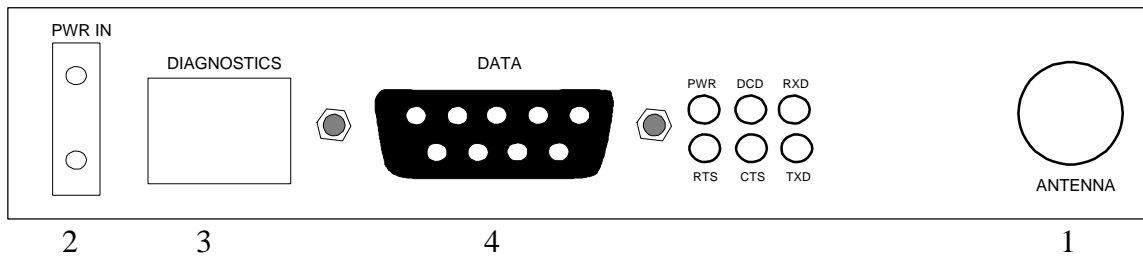

Figure 3.1 Model 2888 External Connectors
After determining the appropriate squelch level, set the RF signal generator to that level. Connect the output port of the service monitor to the antenna port of the 2888 Radio (Figure 3.1, ①, Page 3-2). Turn the Squelch Adjustment Potentiometer located at R57 (Figure 2.3, ④) counterclockwise to the turn limit. Then, rotate the potentiometer clockwise slowly until you see the Rx LED solidly on, then stop turning immediately. To verify proper adjustment, reduce the RF input to the 2888 Radio by approximately 4 dB. The Rx LED should turn off solidly. If this is not the case, a minor counterclockwise adjustment may be required to insure squelch to be off at the required receive level, and turned on 4 dB below the required receive level.
Figure 3.1 illustrates the connector locations and their usage.